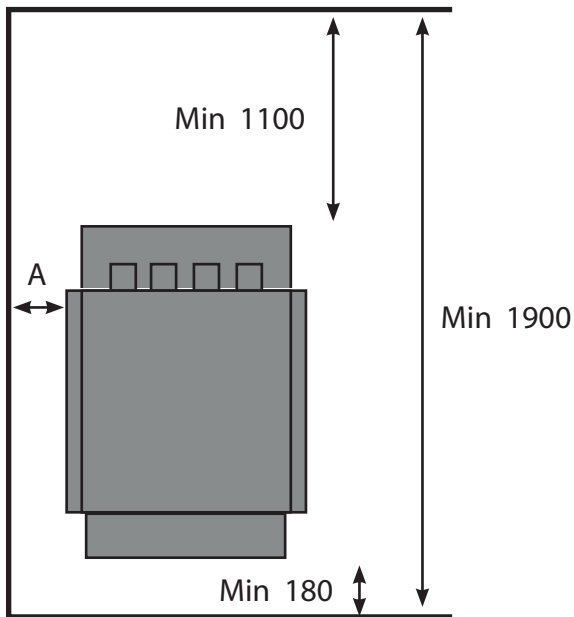

Fig. 5.4c
- iv. The minimum height of your sauna room must be 1900mm, please refer fig 5.4c